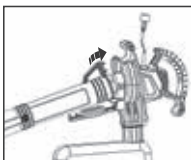

Fig. 9
4. Attach the vacuum/mulcher tube assembly to the motor housing by locating the assembly as indicated by arrow, then pivot about this point until the locking/release catch is fully engaged (Fig. 9 & 10).